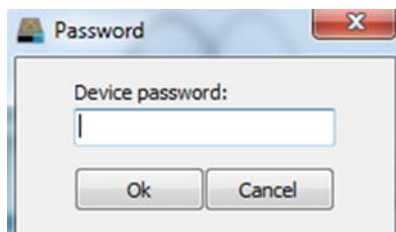

Figure 24: Read out data, unlock configuration or switching on/off
- **Turning off:** If this field and a password are activated, the turn off is only possible by use of the button . Then the password is requested (see Figure 24).
- **Configuration:** If this field and a password are activated, changes in configuration and erase memory are only possible after entering the password (see Figure 24).
- **Reading out data:** If this field and a password are activated, the password is requested when making the USB connection (see Figure 24).